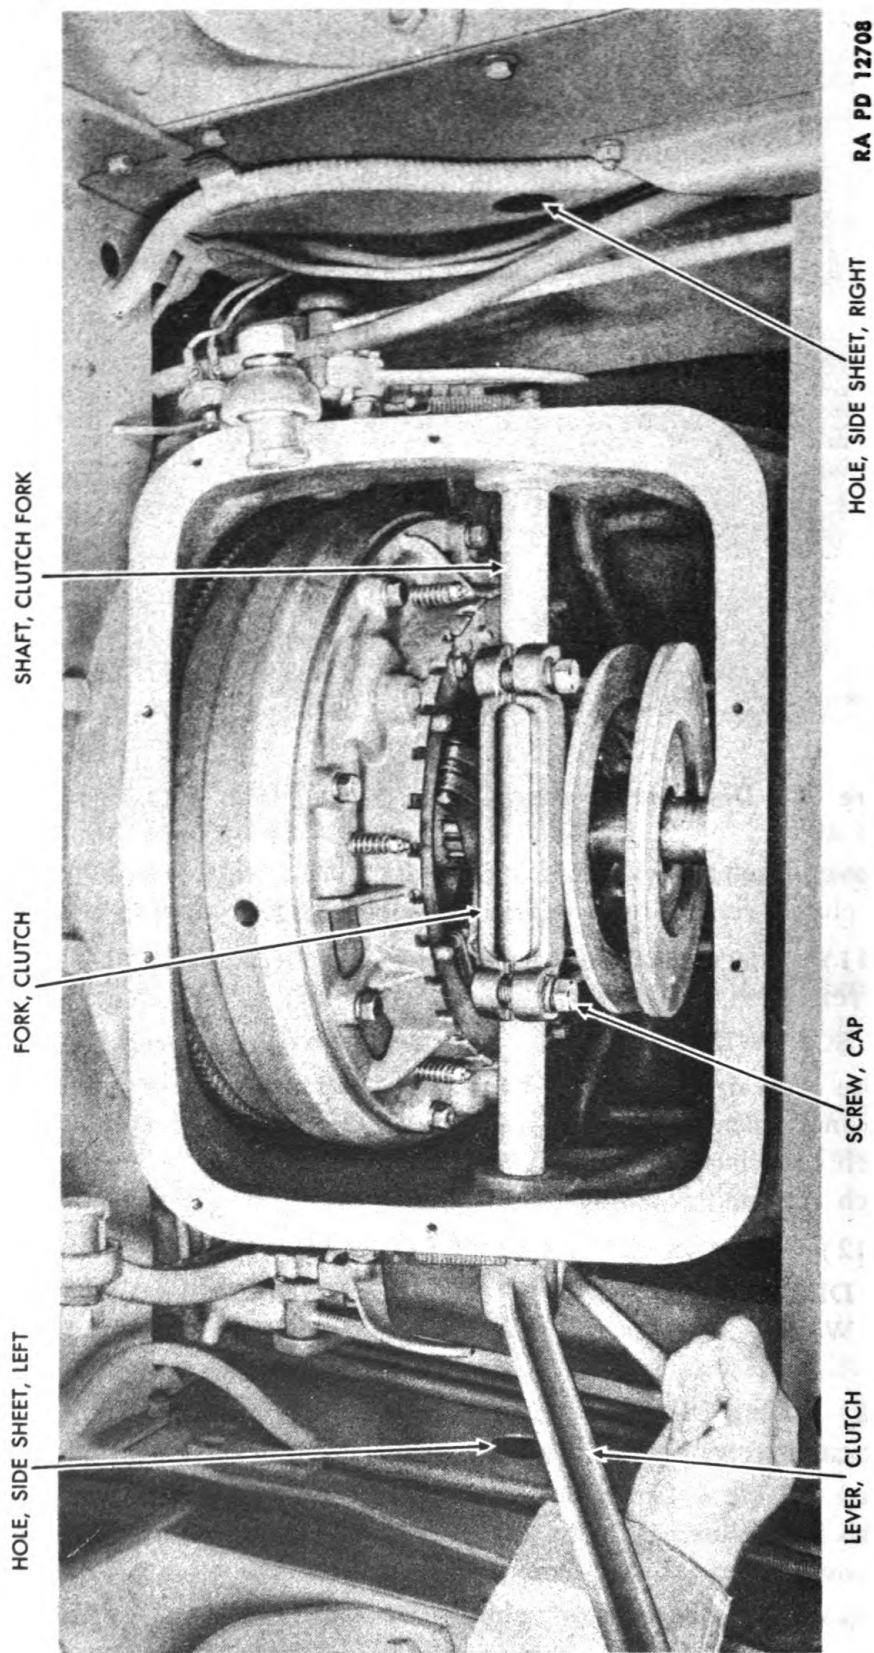

Figure 14 — Clutch Fork Shaft Removal
(12) REMOVE CLUTCH FORK SHAFT (fig. 14).